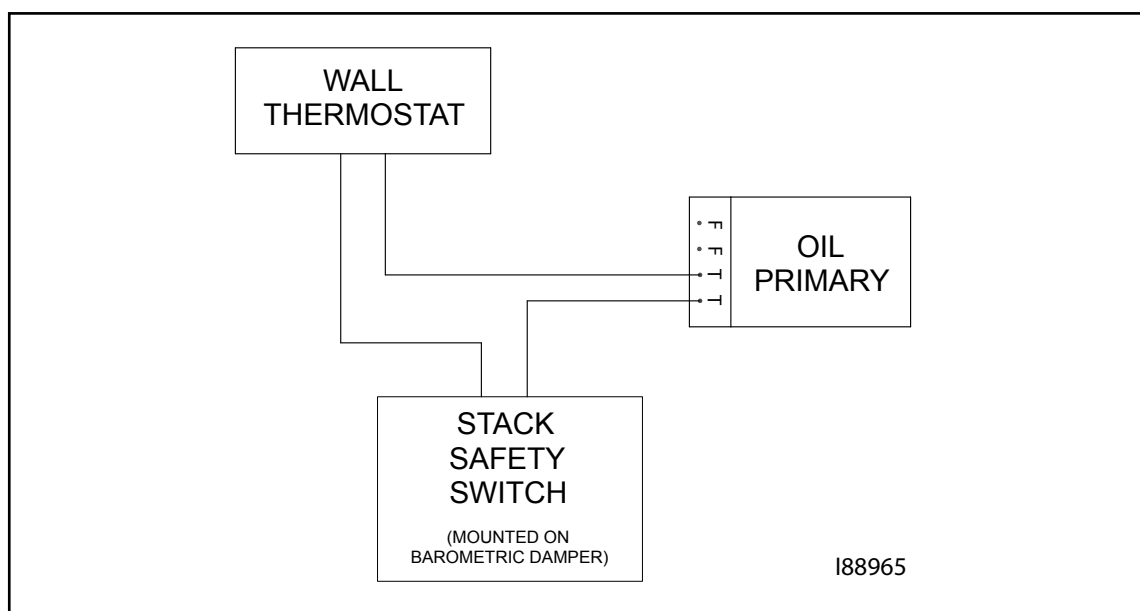

Figure 4P - Stack Safety Switch Wiring Diagram
5. Install the wall thermostat according to the instructions provided in the *Operator's Manual, Section 4*. Wire the wall thermostat and stack safety switch in series as shown in Figure 4P. Install the wire so that it is secured away from any hot surfaces.